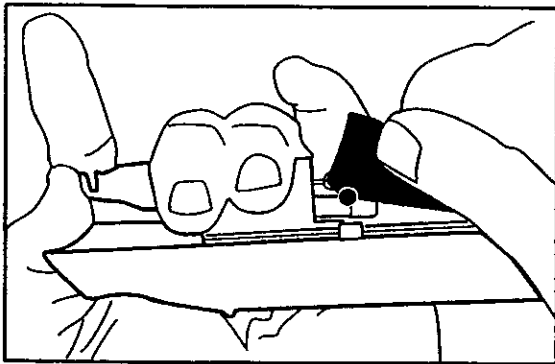

Fig. 14
2. Depress the nozzle /valve assembly and unlatch the trigger. The nozzle/valve assembly is spring loaded. (Fig. 14)